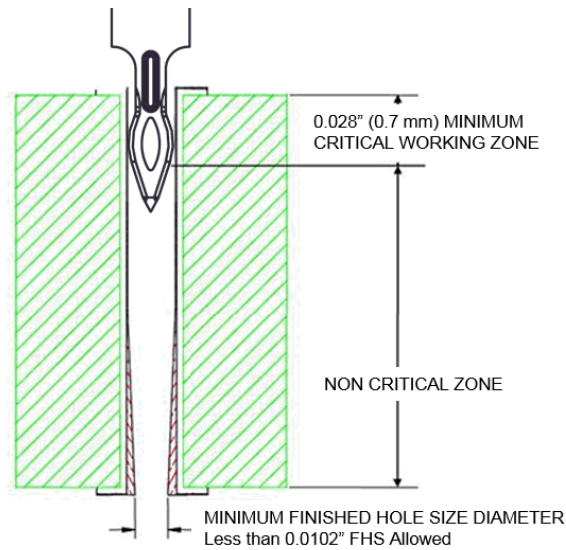

Figure 2: 0.0157” Compliant Pin Critical Working Zone
- The finished hole inner diameter of the press-fit signal and ground holes need be controlled only for the top 0.70mm (0.028") from the layer 1 side (Paladin Connector mounting side) of the PCB. See Table 1 and Figure 2.
1. Copper thickness per side is an Amphenol requirement. The copper plating must be within specified range in Table 1 according to the specific Finish Type selected by the end user. Copper plating at the knee of the hole is limited to a maximum of 10% above the average copper wall thickness measured in the working zone, see Figure 2 below, of the plated thru hole, and cannot exceed the MAX copper plating thickness specified in Table 1.
The “Critical Working Zone” shown in Figure 2 is defined as the compliant working zone where the plated through hole requirements must meet the specifications defined within this document. In the “Non Critical Zone”, the plated through hole is allowed to go below the minimum required finish hole size for non-midplane applications. Back drilling is allowed in the “non-critical zone” only.